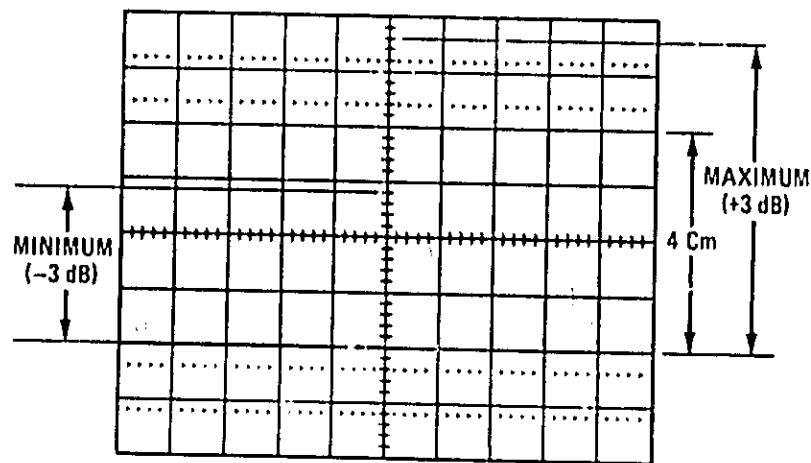

Figure 5-31. FM Flatness Tolerance, DC to 2 MHz
10. Check that ± 3 dB flatness specification is met between DC and 2 MHz as follows. Manually sweep the function generator frequency between DC and 2 MHz. On the oscilloscope, note maximum and minimum response points (Figure 5-31). Maximum point (+3dB) can be up to 5.6 divisions, and minimum point (-3 dB) can be down to 2.8 divisions.